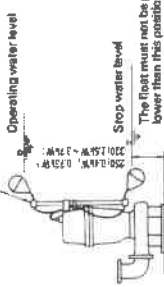

Fig. 3
- (8) For automatic pumps (DVSA), install the floats as shown in Fig. 3. The pump may not start if a float switch touches the wall of the water tank or the piping. Install the floats so that this will not happen.